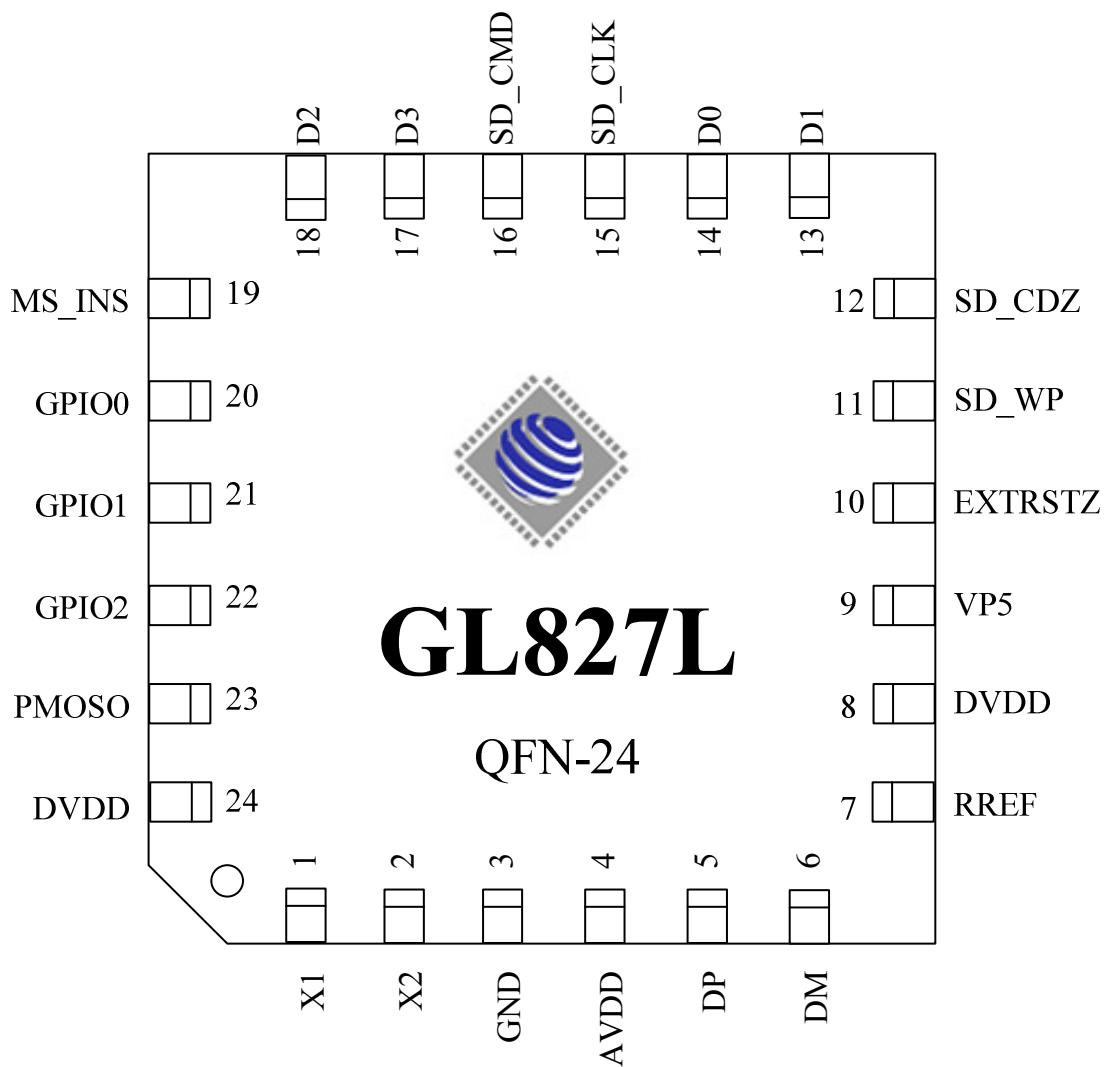

Figure 3.3 – (B) 24 Pin QFN Pinout Diagram
| FIGURE 3.3 – (B) 24 PIN QFN PINOUT DIAGRAM | 10 |